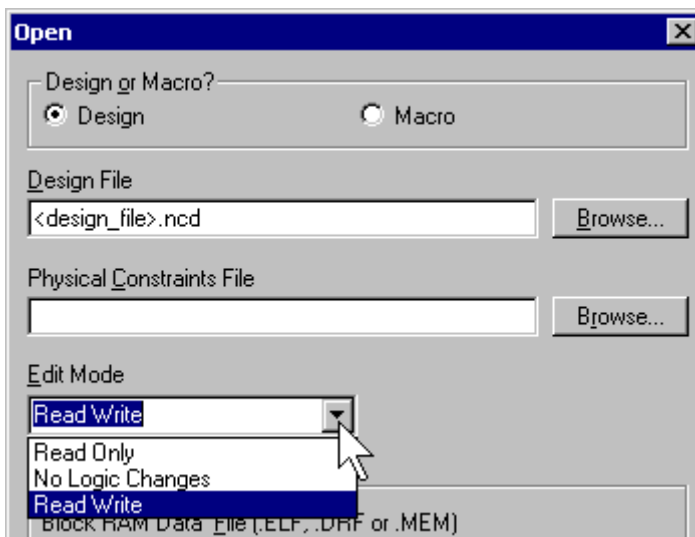

Figure 5: Enable User Editing in FPGA Editor
- Select **File** → **Open**. Select the *.ncd file for the completed design. Set the **Edit Mode** to "Read Write" mode as shown in Figure 5.